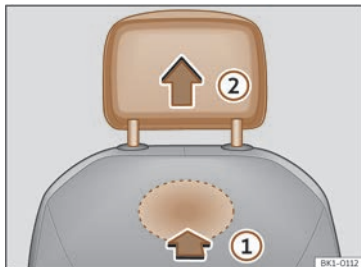

Fig. 93 Front head restraint: removal.
- To unlock it, look for the rabbit on the bottom of the backrest and press in the direction of the arrow >>> Fig. 93 ①.
- Remove the head restraint in the direction of the arrow ②.